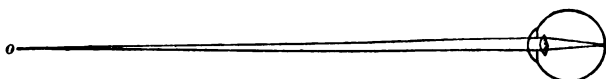

FIG. 173.—DISTANCE OF DISTINCT VISION.
295. As in the case of the lens held before a screen, the object and image are in conjugate focuses of the crystalline lens. The *focal length* of this lens, however, is *very nearly the same* as its distance from the screen (retina). As only *parallel* rays are brought to a point at the principal focus of a lens, the eye cannot form an image, and, therefore, cannot see distinctly objects so near to it that the rays diverge much on entering the pupil (C). This will be evident from the diagram. (Fig. 173.)